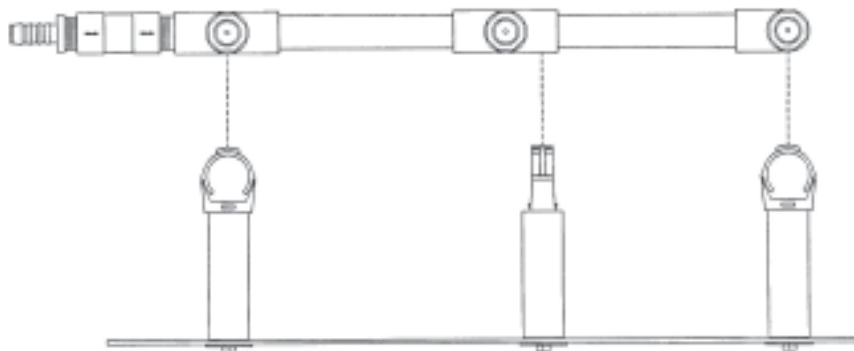

Figure 4d
3. Verify the Pipe Clamps are open and insert the Manifold Piping Assembly as shown in Figure 4d. Press down on the Manifold Piping Assembly so each of the five Pipe Clamps locks around the piping. Tighten the hex bolts to secure the PVC Standoffs to the Barrier.